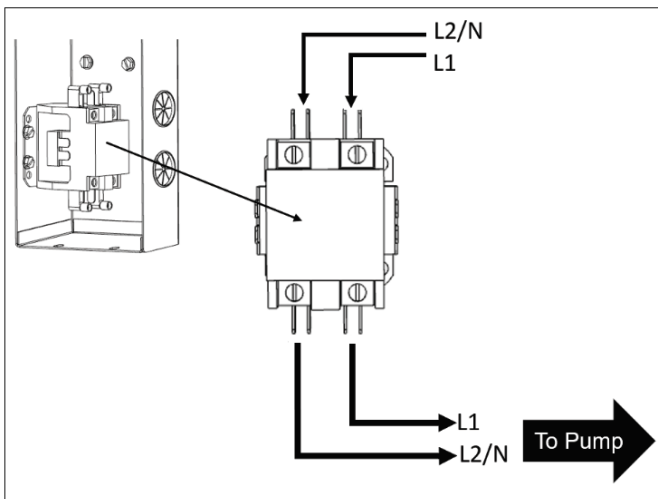

Figure 50. Pump Contactor Wiring Detail
3. Connect power to pump contactor as shown in **Figure 50**.
4. Take the dry contact power lines back to the pump as shown in **Figure 50**.